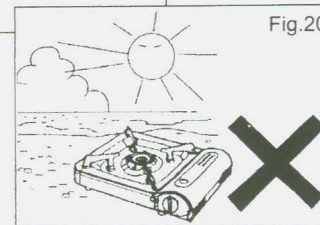

Fig.20
5. Avoid direct sunlight and place a board under the unit to prevent sand, mud and stones from entering the unit. (Fig. 20)